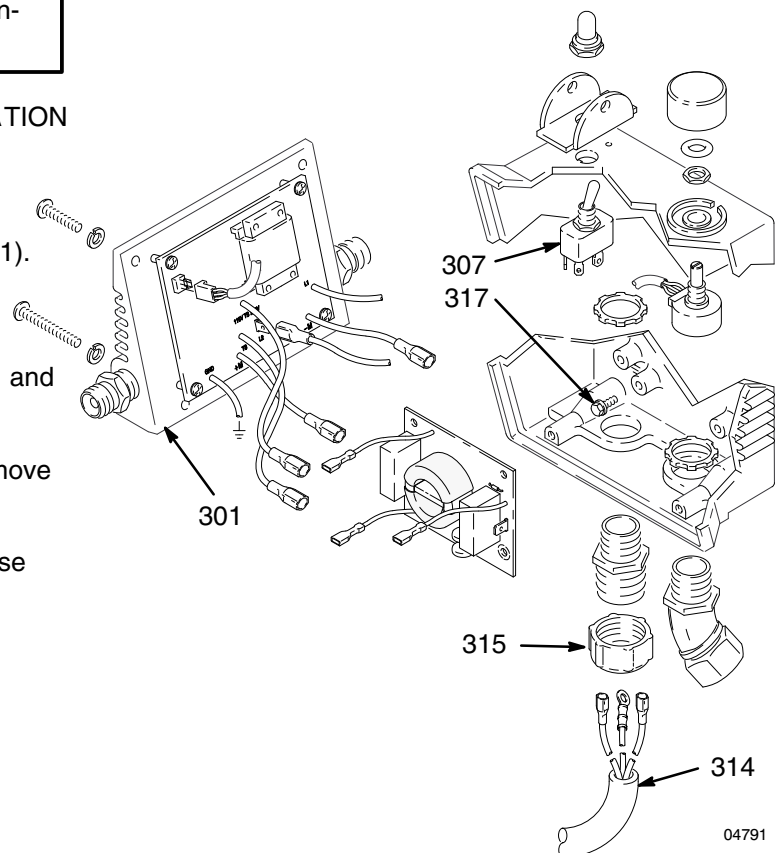

Fig. 15
# Power Supply Cord Replacement (Fig. 15)
2. Remove the pressure control board/cover (301).
3. Disconnect the two wires from the ON/OFF switch (307). See Fig. 15.